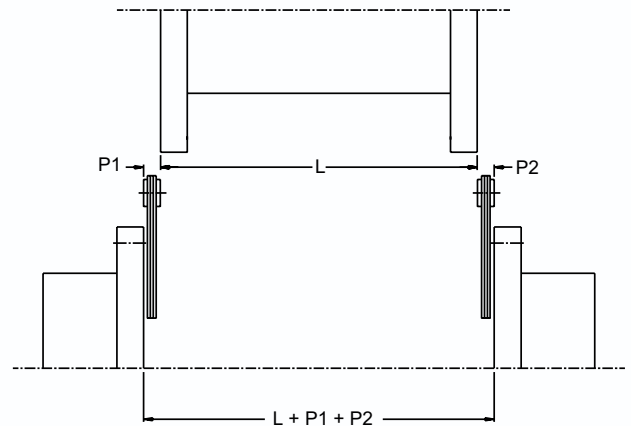

Figure 4. Axial Misalignment Measurements
- 4.3 Measure the length of the center section and the thicknesses of the two disc packs. See Figure 4. Measure the separation between the hub flanges and adjust the equipment until the axial hub separation equals the sum of the disc pack thicknesses and center section length. Hub separation =  $L + P1 + P2$ .